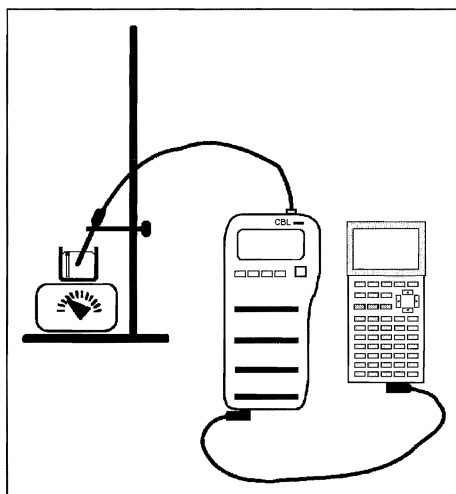

Figure 1: Equipment Setup
To connect the equipment as shown by Figure 1:
- 7 Lower and secure the clamp, with the temperature probe attached, so that the probe is immersed and alongside the graduated cylinder as shown in Figure 1.